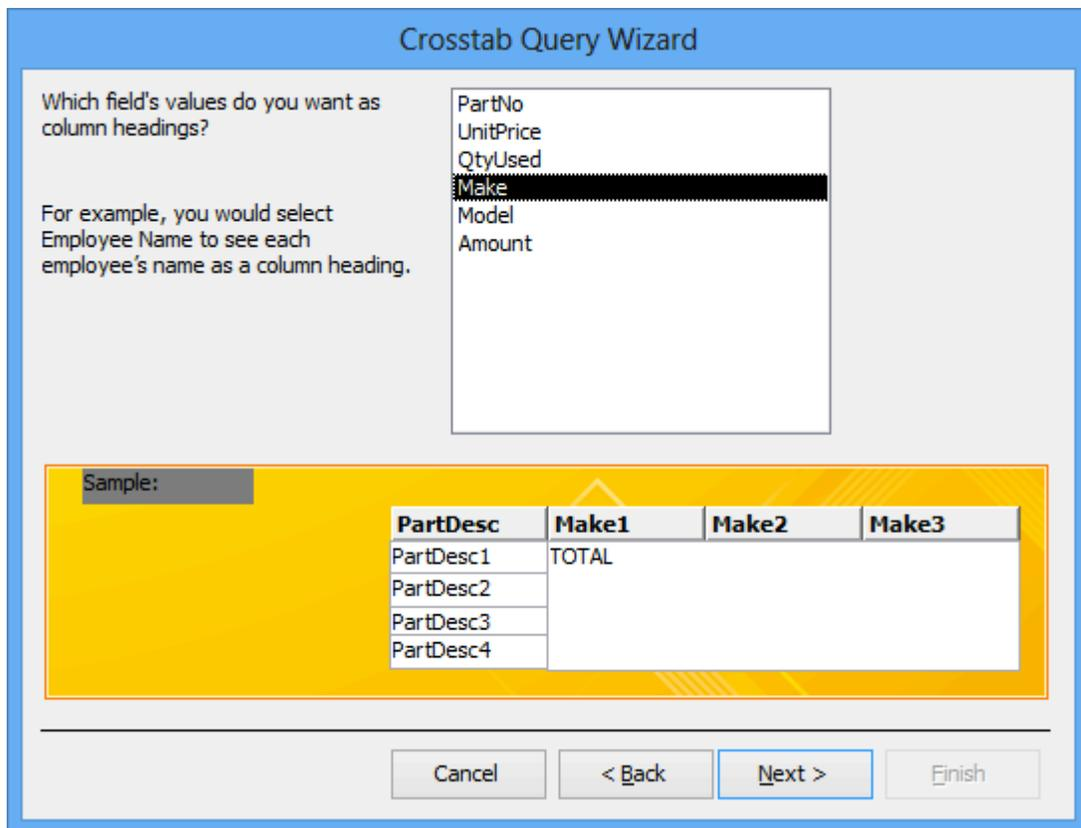

Figure 35: Select *Make* as the Column Heading
4. Select Fields for Column Headings: In the next window, select *Make* as the field for the column heading (Figure 35). Click the **Next >** button.